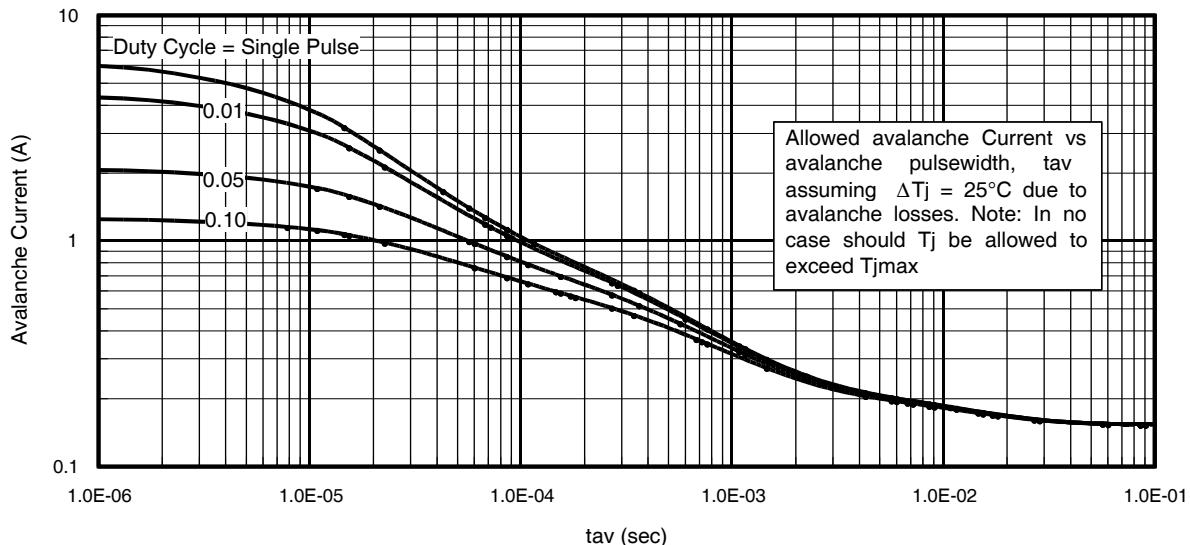

Fig 14. Typical Avalanche Current Vs. Pulsewidth
- ① Repetitive rating; pulse width limited by max. junction temperature.
② Starting $T_J = 25^\circ\text{C}$, $L = 0.32\text{mH}$, $R_G = 25\Omega$, $I_{AS} = 13\text{A}$.
③ Pulse width $\leq 400\mu\text{s}$; duty cycle $\leq 2\%$.
④ R_θ is measured at T_J of approximately 90°C .
⑤ Limited by T_{jmax} . See Figs. 14, 15, 17a, 17b for repetitive avalanche information
Notes on Repetitive Avalanche Curves , Figures 14, 15:
7. ΔT = Allowable rise in junction temperature, not to exceed T_{jmax} (assumed as 25°C in Figure 14, 15).